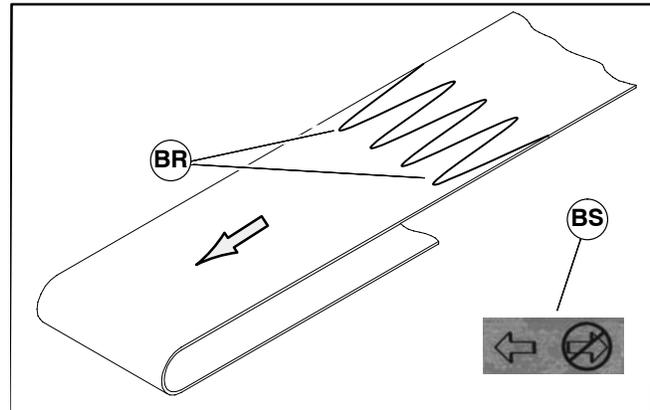

Figure 40
1. Orient belt so splice leading fingers (BR of Figure 40) point in the direction of belt travel as identified by the conveyor directional label (BS).
2. Orient belt so splice leading fingers (BR of Figure 40) point in the direction of belt travel as identified by the conveyor directional label (BS).
3. Install belt (BJ of Figure 40) on conveyor. Lift conveyor slightly to avoid pinching belt on temporary support stands.